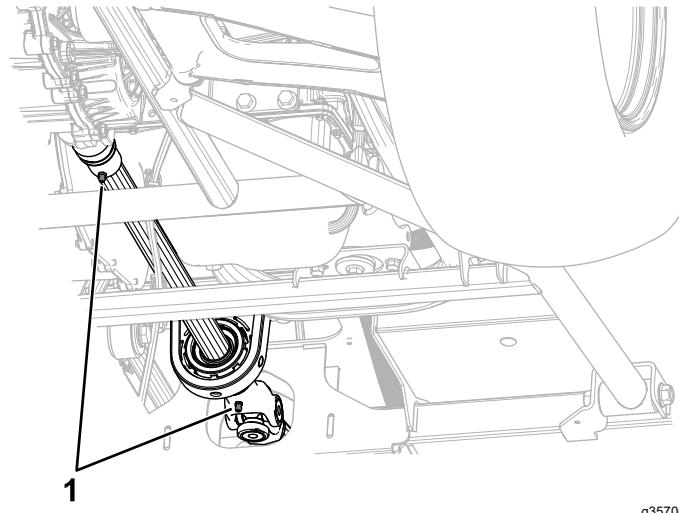

Figure 58
- Drive shaft (2); refer to Figure 58